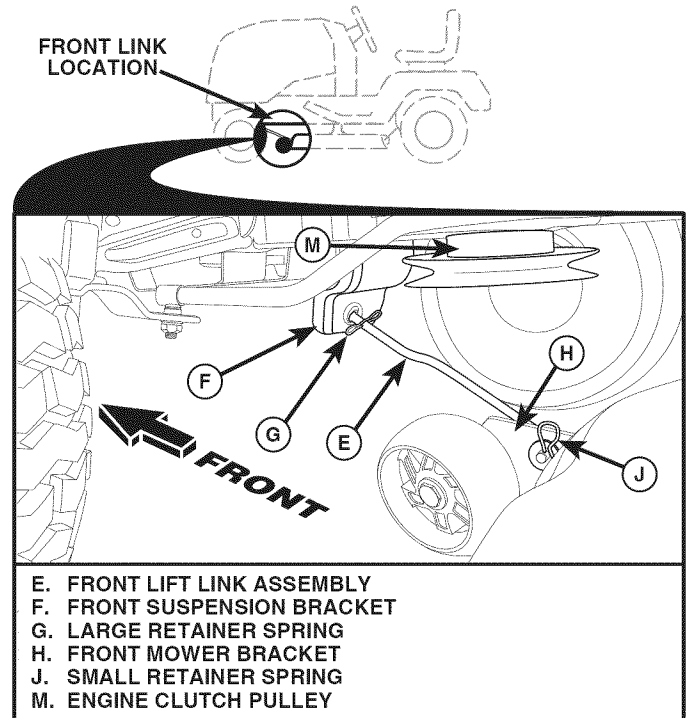

Fig. 38
## 8. ATTACH FRONT LINK (E) (See Fig. 38)
- From front of tractor, insert rod end of front link (E) through front hole in tractor front suspension bracket (F).
- Move to left side of mower and insert large retainer spring (G) through hole in front link (E) behind front suspension bracket (F).
- Insert other end of link (E) into hole in front mower bracket (H) and secure with washer and small retainer spring (J).